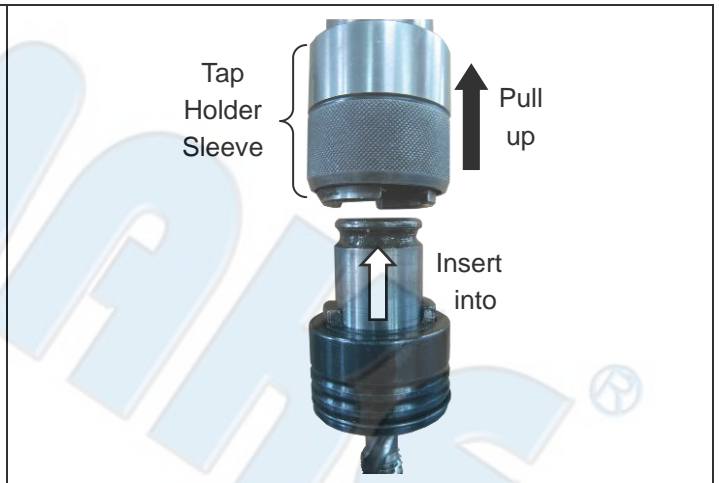

Figure 7-2
- (2) Insert tap holder with tap into spindle. Pull up tap holder sleeve, insert tap holder with tabs aligned to slots in tap holder sleeve, and then release sleeve (see Figure 7-2).